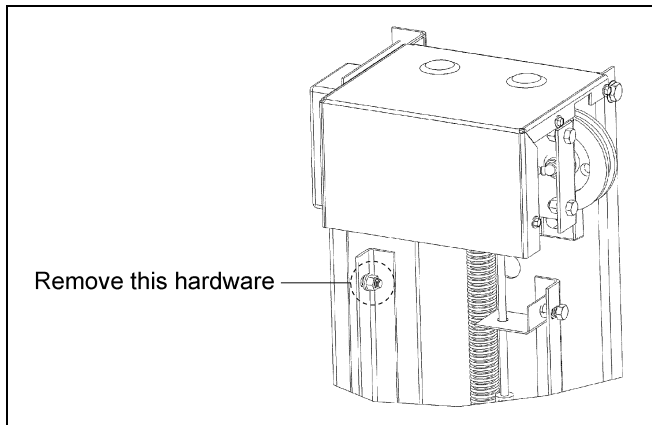

Figure 1
1. Remove existing nut, bolt, and lock washer from the guide rail. (See Figure 1.)